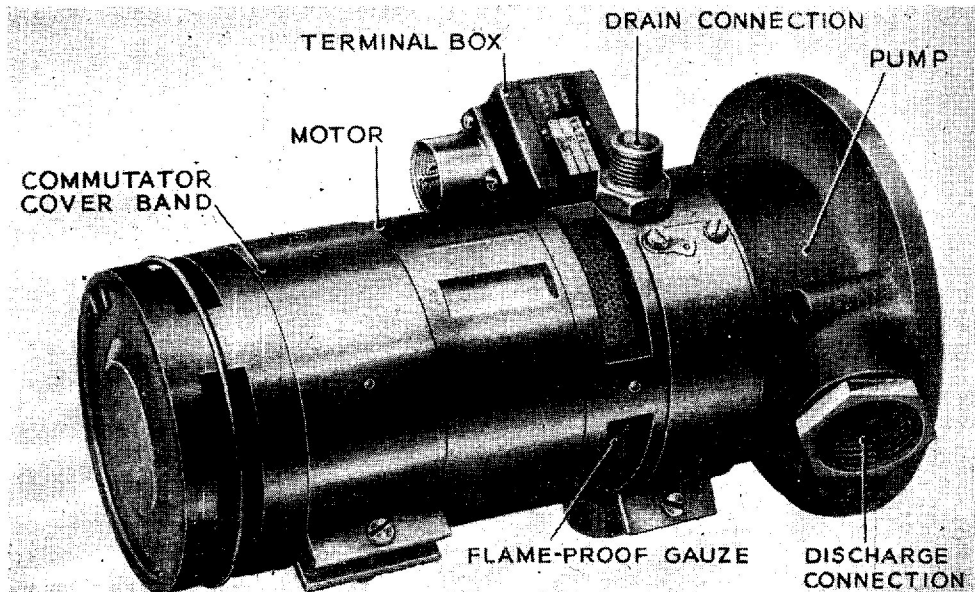

Fig. 1. General view of methanol/water injection pump, FB4, Mk. 1
3. The pump casing (*fig. 1*) is a light alloy casting with a suction mounting flange at one end, pierced with light holes, for bolting the pump direct to the wall of the fuel tank. The angular discharge connection embodied in this casing is fitted, with a $\frac{3}{4}$ in. B.S.P./A.G.S. coupling, tightened against a fibre washer, and locked in position, after installation, with 18 to 22 s.w.g. non-corrodible iron locking wire. The inlet of the impeller projects to accommodate a suction cover. A cork joint is fitted between the cover and the pump casing, the whole being secured by the six nuts and washers holding the pump casing to the motor. A breathing aperture in the side of the case is covered with a fine mesh grid.